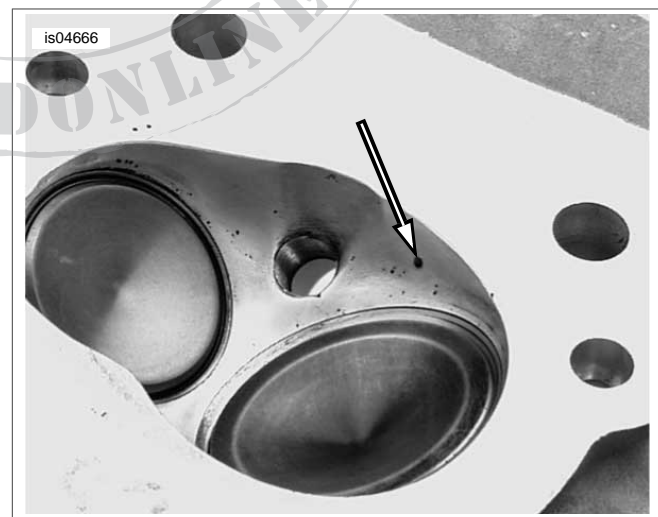

Figure 5. Combustion Chamber Release Hole
2. Install the 1/16 inch drill bit (8) (included in kit) into the drill motor chuck.
3. Use the existing drill point at the bottom of the first drilled hole as a pilot. Slowly drill a 1/16 inch hole (See Figure 5.) into the combustion chamber. Be careful not to break the drill bit off in the head.